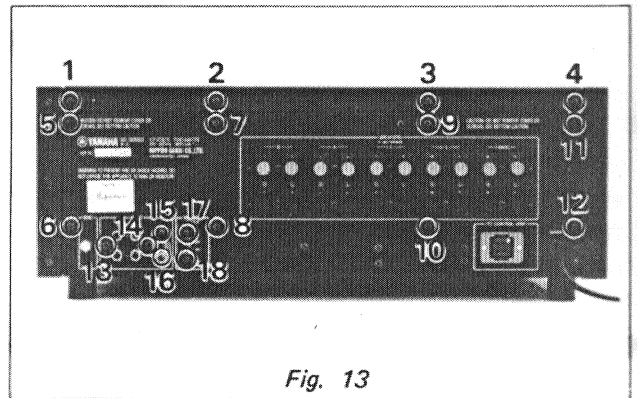
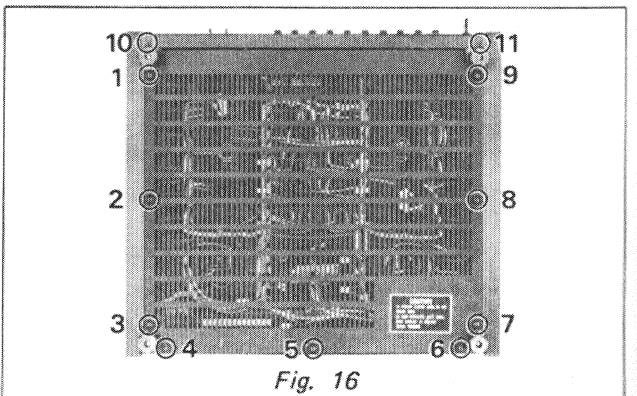

Fig. 13
Fig. 16
- Remove screws (1) to (4) from the rear panel as shown in Fig. 13.
Remove screws (1) to (9) as shown in Fig. 16, then take off the bottom cover.
Remove screws (5) to (12) as shown in Fig. 13, and screws (10) and (11) as shown in Fig. 16.
Take off the rear panel and remove screws (13) to (18) as shown in Fig. 13. Then remove the input circuit board.